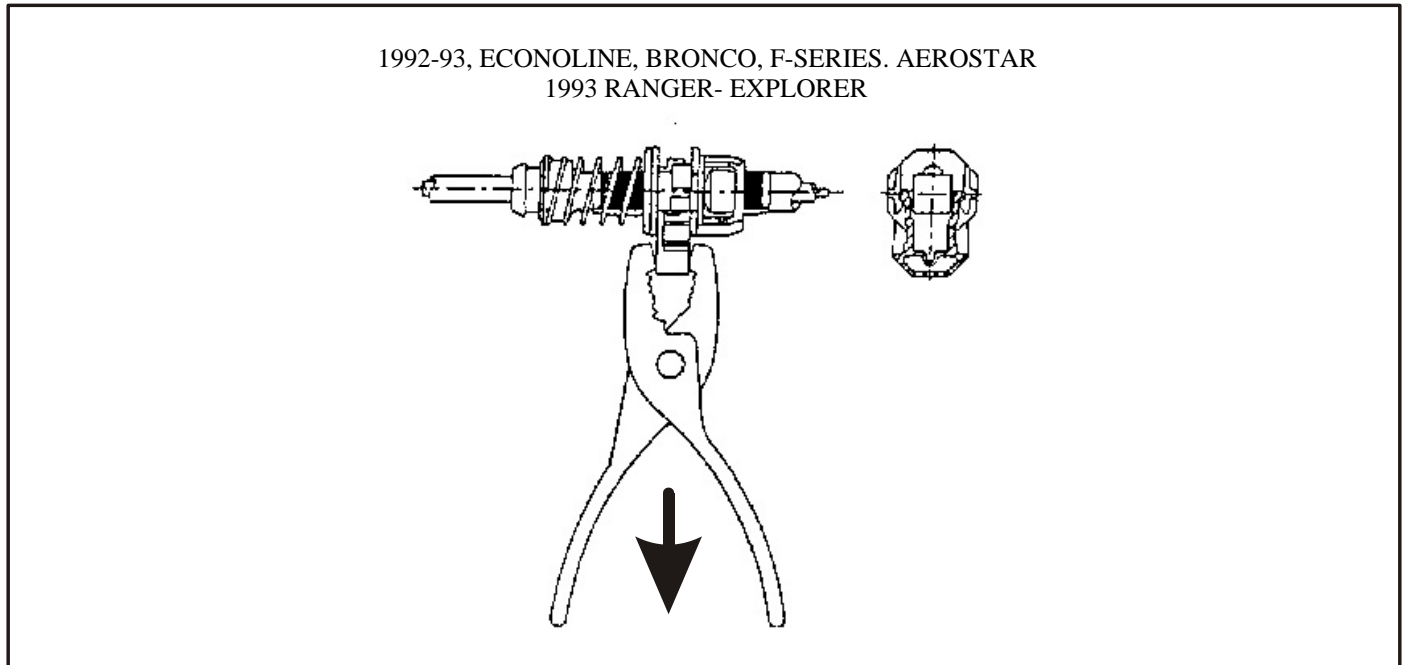

Figure 2
1) Hold the cable in the bracket with one hand, while removing the tab from the adjuster body with a pair of pliers in the other hand (SEE FIGURE 2). It will be necessary to apply about 20 Lbs. of force to remove the locking tab.